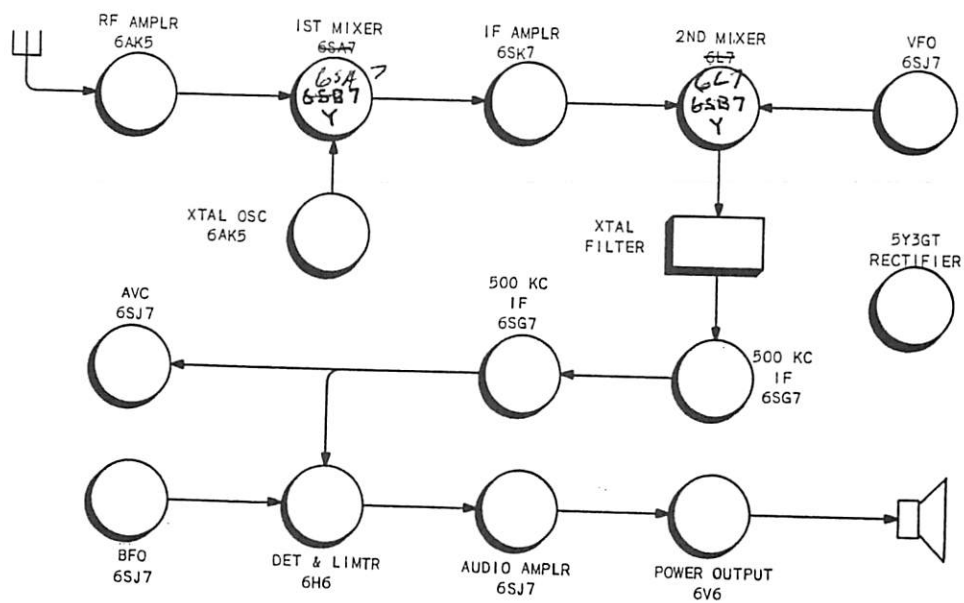

FIGURE 1-1 MODEL 75A RECEIVER
- 1-16. **CIRCUIT.** - Refer to figure 1-1. The double conversion circuit of the 75A employs fourteen tubes, including rectifier. The use of double conversion avoids the compromise always made in conventional receivers, i.e., a high IF is desirable for image rejection and a low IF is best for selectivity. The 75A uses two intermediate frequencies and has both features. Because of the high frequency of the first IF, only one stage of r-f amplification is needed to give extremely high image rejection. Additional stages are unnecessary and unwarranted. Following the r-f stage the incoming signal is mixed with the output of a crystal oscillator to produce the first IF. The first IF is amplified and mixed with the output of the variable frequency oscillator to produce the 500 KC second IF. The crystal filter is incorporated in the 500 KC second IF circuit. The audio is then removed from the carrier, passed through the automatic noise limiter, amplified, and fed to loudspeaker or headphones. BFO output is applied to the second detector. AVC voltage is obtained from the same point and fed to the controlled stages.
2-6. GENERAL. - Refer to block diagrams of the receiver, figures 1-1 and 2-1. The general plan of the 75A receiver is a result of efforts to give to the amateur a receiver which has a stability and calibration accuracy never before obtainable in any amateur receiver. In addition, the receiver features an image rejection ratio, selectivity and sensitivity not found in many receivers of modern design. Improved AVC and noise limiter circuits are incorporated to complete the long list of desirable features of the equipment. How these features are obtained is explained in subsequent paragraphs.
2-7. CIRCUIT. - As shown in the block diagram, figure 1-1, the receiver has one stage of pre-selection. A high gain 6AK5 tube is used here because of its excellent electrical characteristics and desirable physical features. Following the r-f stage is the first mixer of the double detection system.